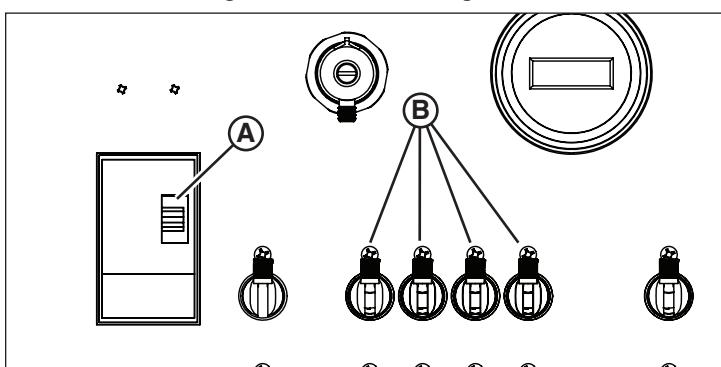

Figure 19
- Turn on the main light breaker (**A**, Figure 19) (if set to OFF).
- Turn on individual light switches (**B**, Figure 19) (1 - 4, if set to OFF).